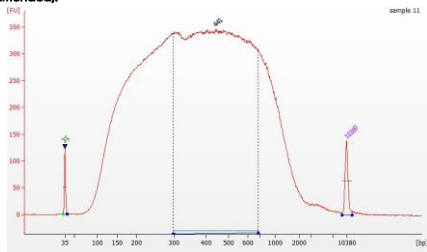

Figure 1 Agilent 2100 Bioanalyzer results of 1000 ng gDNA (dissolved in pH8.0 1xTE buffer)
**Note:** For the first fragmentation test, it is recommended to take 40 µL of product from the 80 µL mixture in Step 3.2.7 for purification with 1.8X beads and elute in 25 µL of En-TE. Then take 1 µL of elute product for Agilent 2100 High Sensitivity test and make sure the smear size is 100 to 2000 bp with the peak size between 300 bp~800 bp (Figure 1). If the size is too large or too small, titrate the 30 °C-incubation time from Table 8. For samples in which an ideal fragmentation size cannot be attained by incubation time titration, we recommend re-purifying the sample DNA with 1.8x magnetic beads and eluting into 1x TE buffer ( pH 8.0 ) or Nuclease-Free Water. After re-purification, re-titrate the incubation time (10~20 min is recommended).